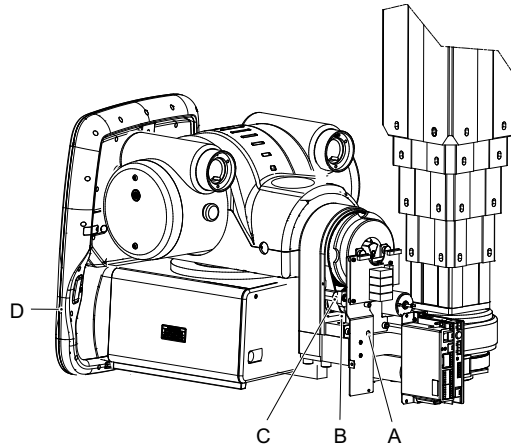

*Fig. 4-102 Adjust Beta Index*
1. Loosen the two nuts in **Fig. 4-102**.